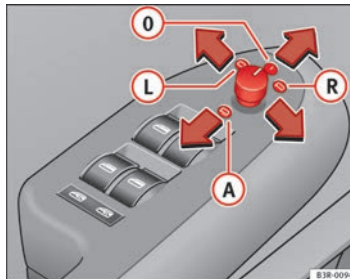

Fig. 102 Detailed view of the armrest: Adjuster knob
- Turn the adjuster knob to position ⇒ Fig. 102 **L** (left exterior mirror) or position **R** (right exterior mirror).
When reverse gear is engaged, the mirror surface tilts slightly downwards, provided the mirror control is switched to the exterior mirror on the passenger side (knob in position **(R)** ⇒ Fig. 102). This provides a better view of the kerb when parking.